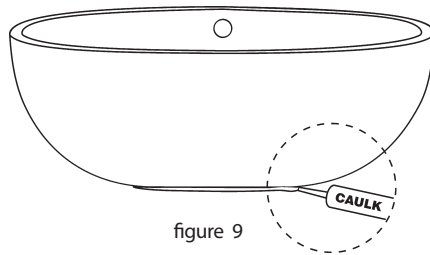

figure 9
18. Run a bead of tub and tile caulk around the bottom edge of the bathtub where it meets the floor. Wipe off any excess caulk with a wet cloth (figure 9).